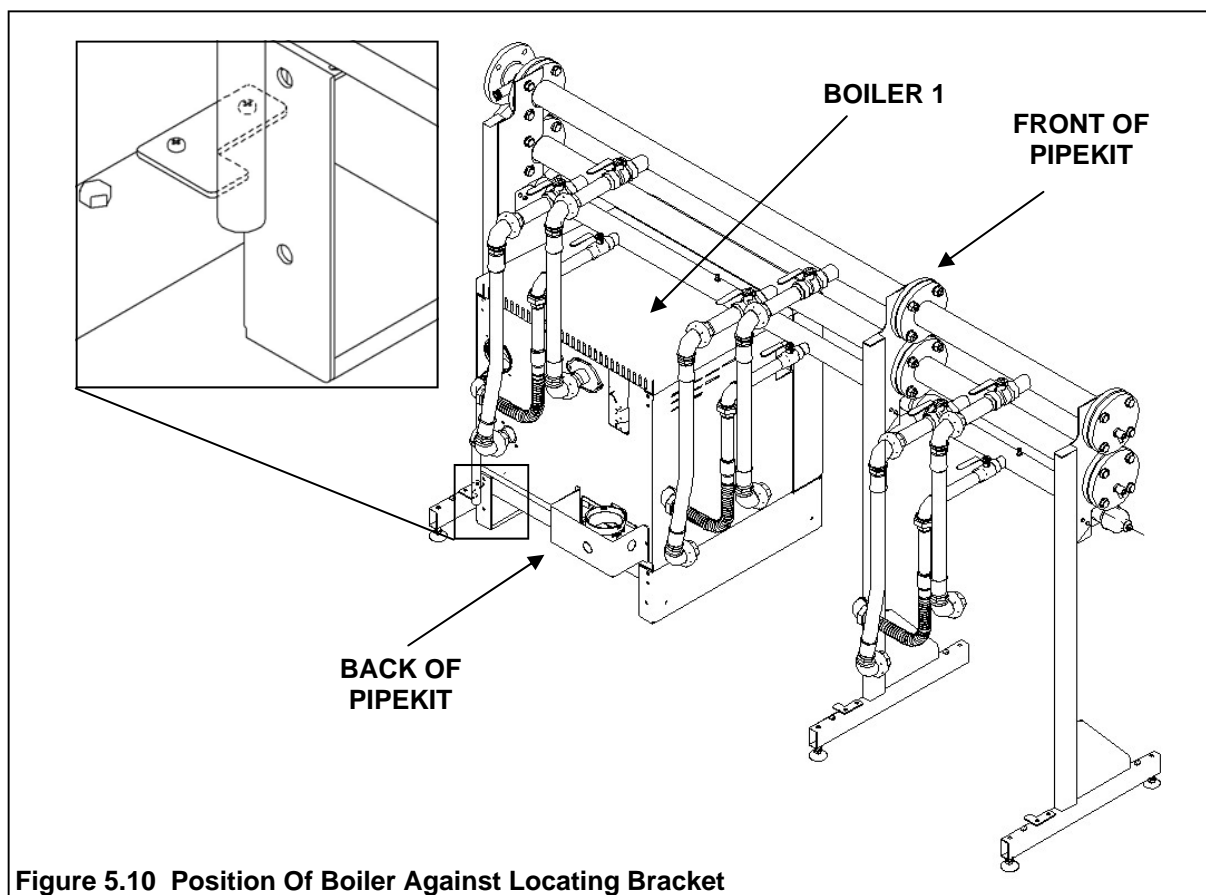

Figure 5.10 Position Of Boiler Against Locating Bracket
5.24 Where two twin boiler pipe kits are assembled together remove the L-shaped bracket from the leg that has been removed. Remove the screws fixing the L-shaped bracket to the inner leg remaining & lay the two L-shaped brackets on top of one another so they face in opposite directions & reassemble the screws as shown in figure 5.10 below.
5.27 Position the boiler under the pipe kit & against the L-shaped locating bracket on the left hand side leg with the side panel of the boiler 10mm from the inside of the leg. See Figure 5.10 below.